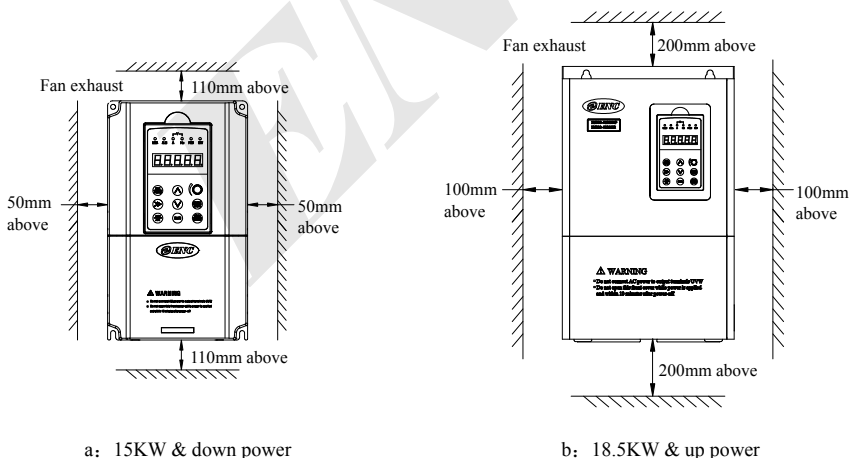

Fig.3-1 Mounting space
(1) Normally the inverter should be mounted vertically, horizontal mounting will seriously affect heat dissipation and the inverter must be used in lower volume.
(2) Demand for minimum mounting space and distance, please see Fig.3-1.